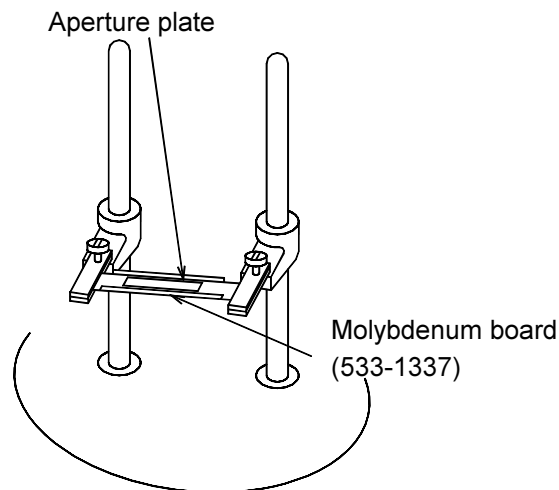

Fig 4.1-38 Baking of Aperture Plate
- (1) Use the vacuum evaporator for heating aperture plates. For handling of the vacuum evaporator, refer to the instruction manual of the evaporator.
- (2) Mount the molybdenum board in the vacuum evaporator. (See Fig. 4.1-38.)
- (3) Evacuate the vacuum evaporator to better than 5×10^{-3} Pa. Heat the molybdenum board. Continue applying heater current until the molybdenum board becomes incandescent. Do not apply too much heater current, otherwise the molybdenum board may be melted.
- (4) After completion of heating the molybdenum board, wait about 5 minutes for cooling down. And then introduce air into the vacuum evaporator.
- (5) Mount an aperture plate at the center of the molybdenum board.
- (6) Evacuate the vacuum evaporator to a high vacuum better than 5×10^{-3} Pa. Apply heater current. Heat the molybdenum board up to the incandescent point and then stop heating. Be careful not to heat for a long time.
- (7) After completion of heating, wait for 10 to 15 minutes and introduce air into the vacuum evaporator. Then remove the aperture plate with tweezers.